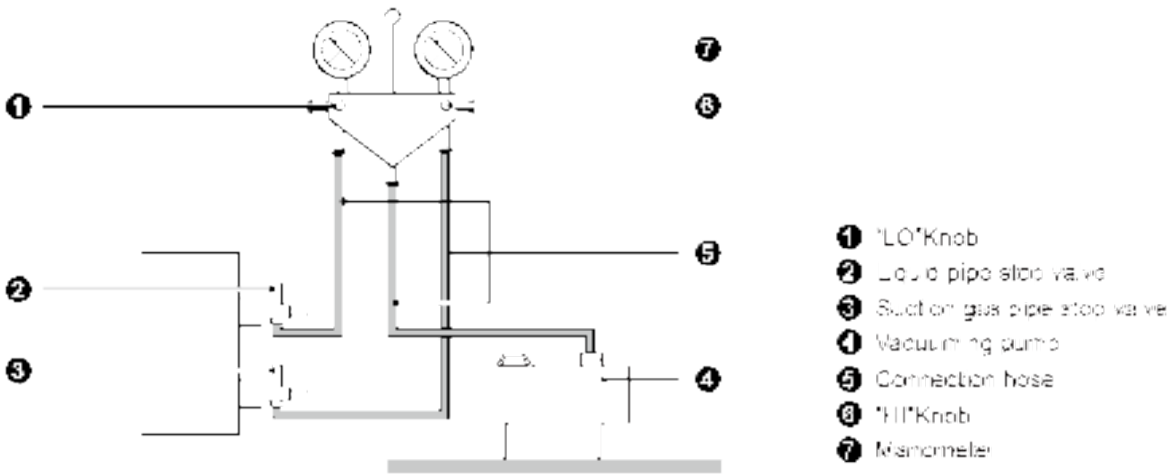

Fig.4.20
- (1) Outdoor unit has been charged with refrigerant before delivery. Field-installed connection pipe needs to be charged with additional refrigerant.
- (2) Confirm whether outdoor liquid and gas valves are closed.
- (3) Use vacuum pump to withdraw the air inside indoor unit and connection pipe from the outdoor valve, as shown in Fig.4.20 below.